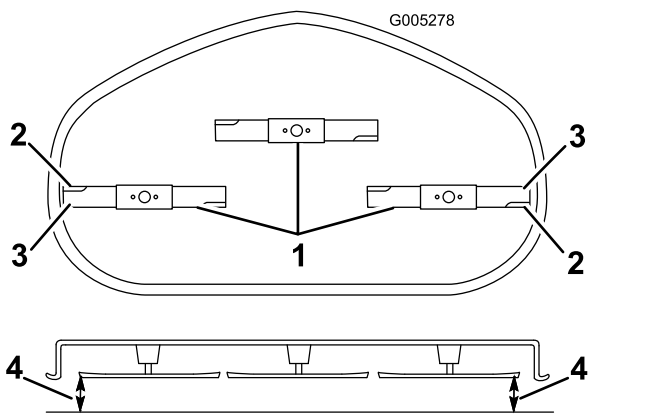

Figure 56
4. Carefully rotate the blades so that they are all side to side (Figure 56).
5. Measure between the outside cutting edges and the flat surface (Figure 56).